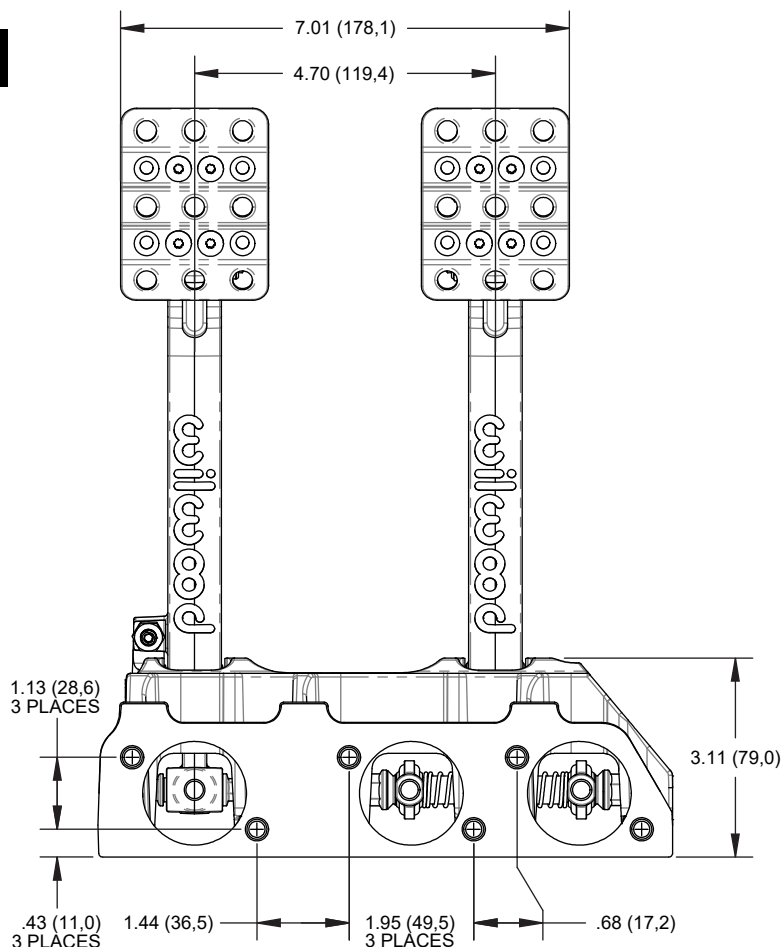

Figure 2.
STEP 1 Install the pedal pad head (1) into the “fork” of the pedal arm in the desired location as shown in Figure 2. Secure in place using bolts (2), washers (3), and locknuts (4).
STEP 2 Torque locknuts (4) to value indicated in Figure 2.
STEP 3 Orient foot pad (5) as shown in Figure 2. Pad may be installed in three different positions as shown in Foot Pad Detail of Figure 1b. Secure to pedal head (1) using four T-20 drive Torx screws (6). Apply blue *Loctite*® 242 to the threads and torque to value indicated in Figure 2.